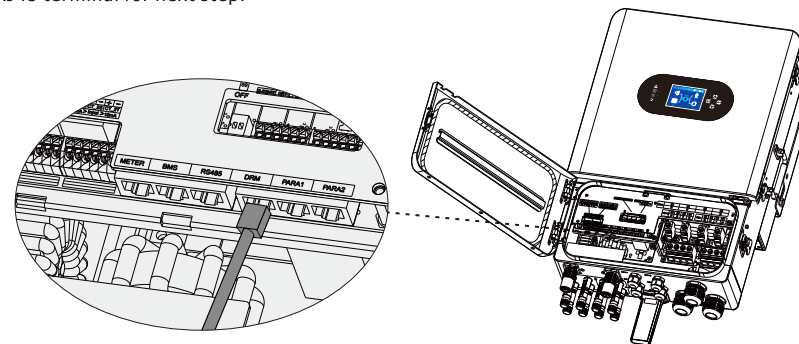

Figure 4.7-1 DRMS interface
Step 1. Open the latch from the right side of the machine. See Figure 4.7-1.